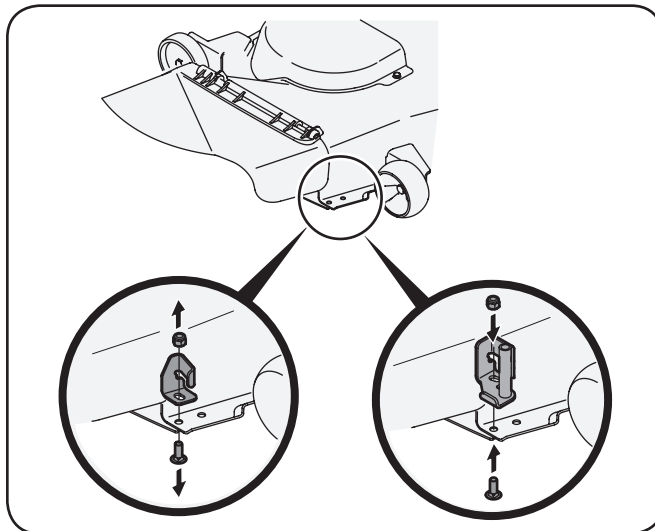

Figure 4-19
1. Remove the carriage bolt and lock nut holding the chute stop to the deck. See the left Inset of Fig. 4-19. Save the hardware.
2. Install the new chute stop bracket, from the loose parts, at the same position on the deck. See the right Inset of Fig. 4-19. Secure with the hardware removed earlier.